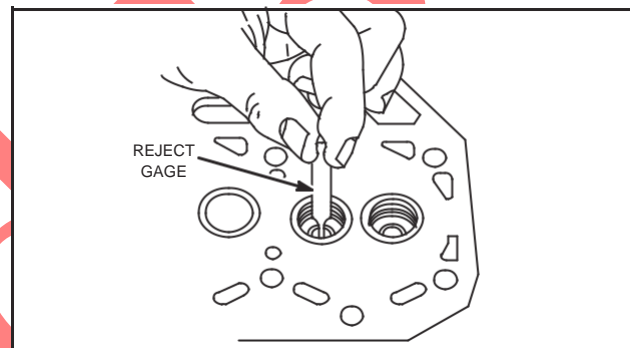

Fig. 17 – Check Valve Guide Bushing
1. Check valve guide bushings for wear using reject gauge, Tool #19382, Fig. 17.